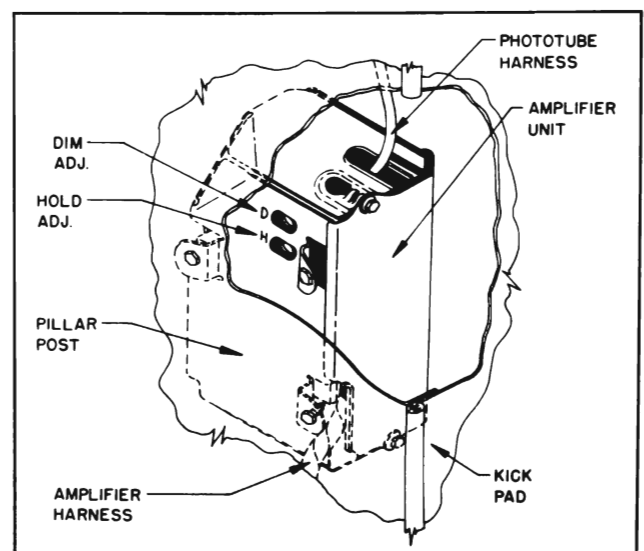

Figure 11-139—Amplifier Adjustments
(1) Hold and dim sensitivity controls are slotted for screwdriver adjustment and are located at the side of the amplifier unit. They are available for adjustment through the left front door post by removing hinge cover and protective plug. See Figure 11-139.
(2) Rotate the amplifier hold control completely clockwise. See Figure 11-139.
(3) Rotate tester "INTENSITY CONTROL" all the way clockwise.
(4) Turn "DIM-HOLD" switch momentarily to "DIM" position to switch lights to lower beam, then switch back to "HOLD" position.